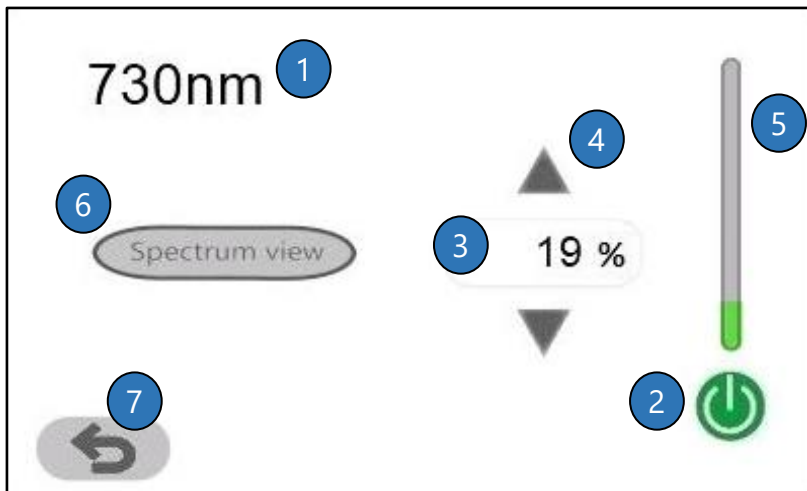

Figure 2. LED screen
If there are several LEDs that have the same wavelength, their current will be set to the same percentage. To adjust the current of each LED/LEDs with the same wavelength (see **Figure 2** on the next page), please touch the rectangle.
On the top left corner of the screen (1), see **Figure 2** on the next page, the central wavelength of the LED is indicated. On the right, the percentage of the nominal output current of the LED can be adjusted from 0% to 100% with the following controls:
- *LED ON/OFF button (2):*
By pressing the screen, you will be returned to the LED screen (see **Figure 2**).